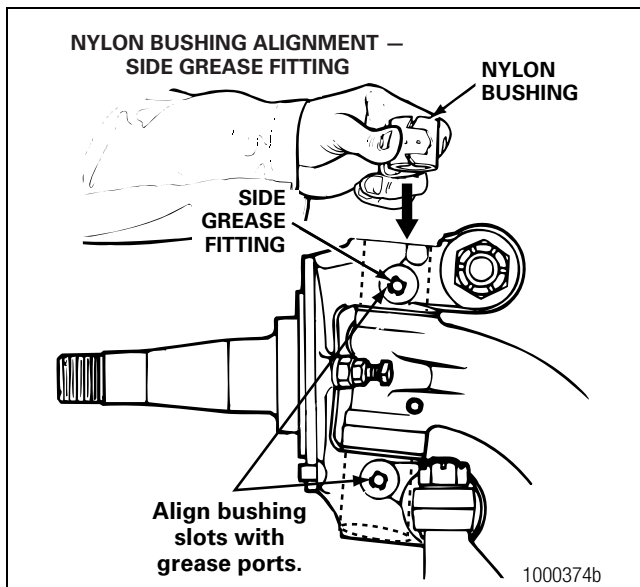

Figure 6.1
4. The bushing lube slots must align with the grease ports in the knuckle. Figure 6.1.